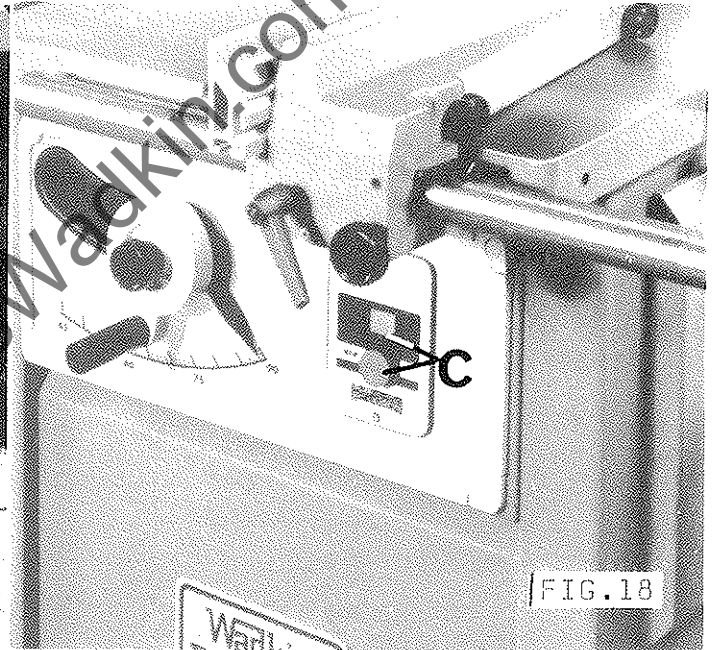
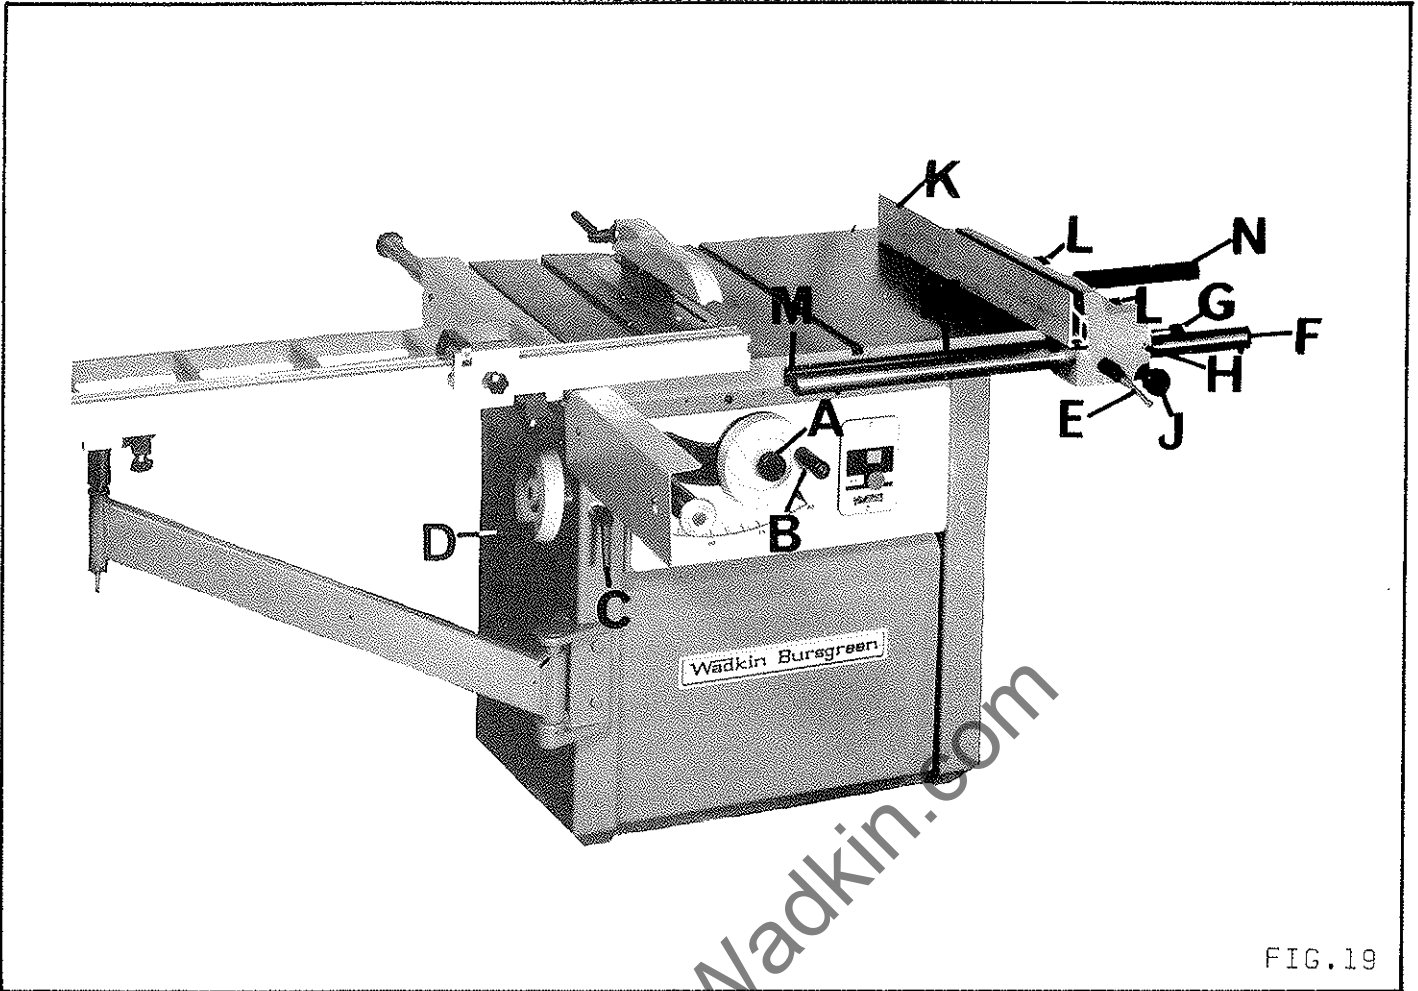

FIG. 18
FIG.19
To re-assemble rip fence, proceed as follows and refer to FIG.19:-
The start/stop buttons 'C' FIG.18, are conveniently situated on the front of machine.
Release locking handle 'A' in FIG.19 and raise or lower the saw arbor by the handwheel 'B' to the required position then relock handle 'A'.
Release locking handle 'C' in FIG.19 and turn handwheel 'D' working in conjunction with the canting scale indicated by the pointer to the required saw position. Relock handle 'C'.
- 1) Loosen locking handle 'E' FIG.19.
The fence plate 'K' in FIG.19 has two positions. Position shown in FIG.18 is for use with deep stock, fence can be moved longitudinally to facilitate this. Position shown in FIG.19 is for use with faced panels, melamine, veneer, etc.
- 1) Loosen handwheels 'L' in FIG.19 then slide fence plate from fence body.
When the fence plate position has been changed as previously described, the pointer 'G' in FIG.19 must be reset accordingly.
- 1) Loosen locking handle 'E' FIG.19, then move fence to a position which would allow a reasonable cut to be taken. Turn locking handle 'E' to lock fence in position.